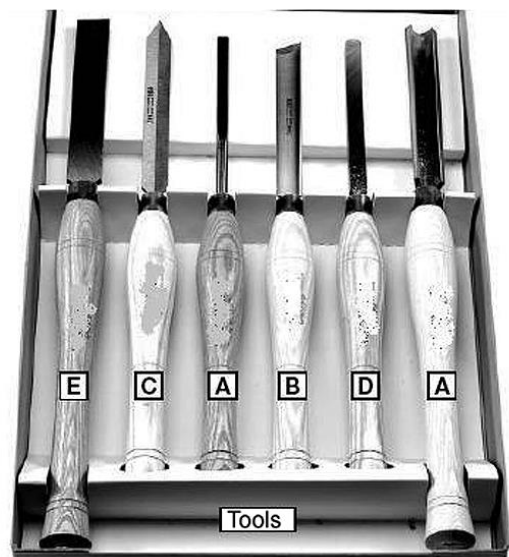

Fig 10.
Standard wood turning tools come in several different configurations (Fig. 10). The majority of turnings will require the gouge tool (A) Fig. 10. This round nosed hollow chisel is used for roughing cuts, cove cuts and other operations. The skew chisel (B) is a double-ground flat chisel, with an angled end. This tool is used for smoothing cylinders, for cutting shoulders, beads, vee grooves, etc. The parting tool (C) is a double-ground chisel, used for cutting-off, or for making straight incisions or sizing cuts to any required diameter. The round nose scraper (D) is used for mostly hollowing work, while the square-end scraper is mainly used for the outside of bowls.